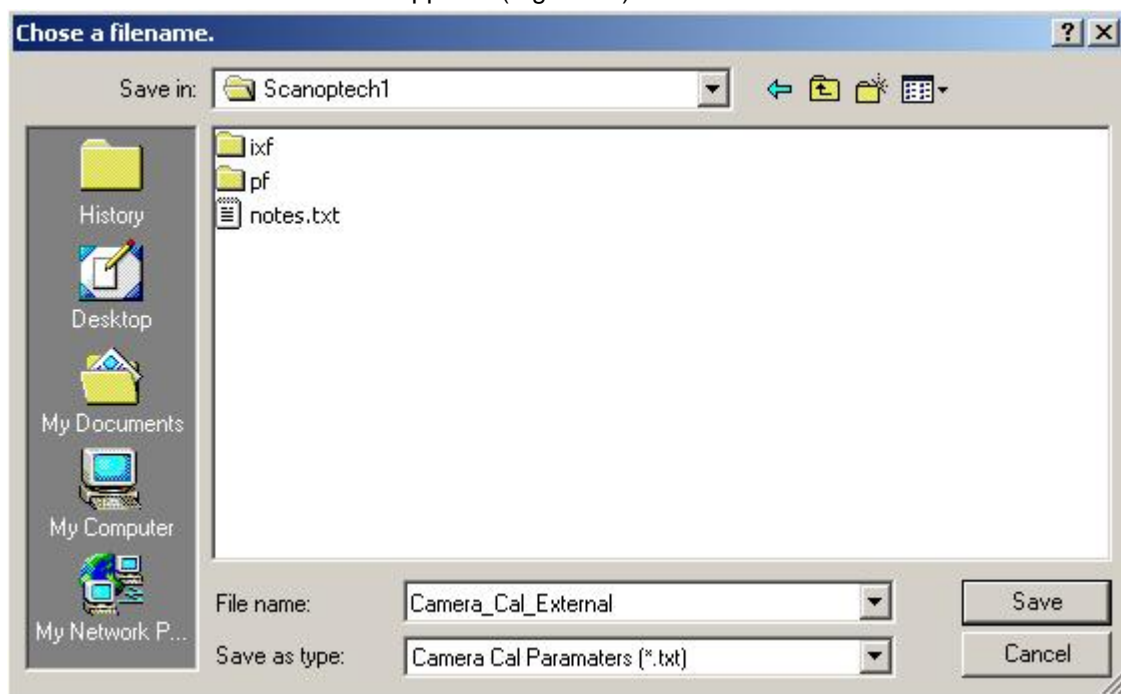

Figure 17: File selection window for camera calibration file
3. Click **OK**. A file selection window appears (Figure 17).